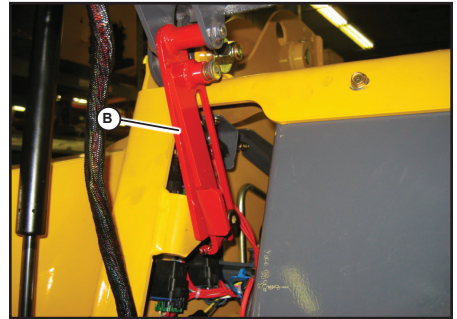

Fig. 32 - ROPS/FOPS lock shown engaged
5. Lift ROPS/FOPS up and tilt it back until the self-actuating lock mechanism engages. The lock mechanism locks the ROPS/FOPS in a rolled-back position (B, Fig. 32).
1. With an assistant’s help, apply upward force on the ROPS/FOPS while pulling the self-actuating lock mechanism handle (B, Fig. 32) toward the front of the loader.